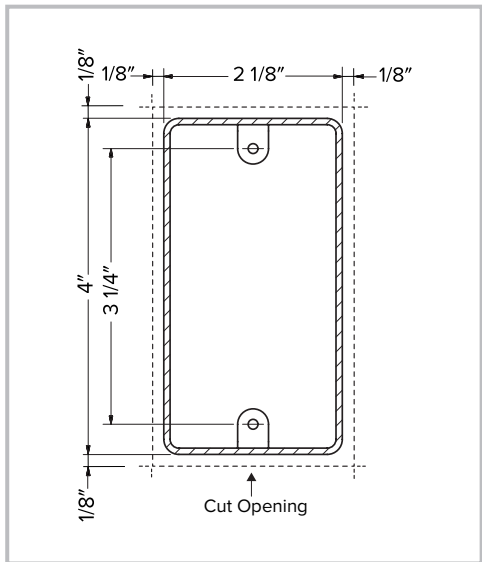

Figure 2: Required Junction Box and Rough Opening dimensions
2. Verify that the junction box opening meets the dimensional criteria shown in **Figure 2**. Confirm that the front edge of the junction box or front surface of the plaster ring is at least 1/16" below the finished wall surface. This is critical to ensure proper gasket contact pressure and sealing.